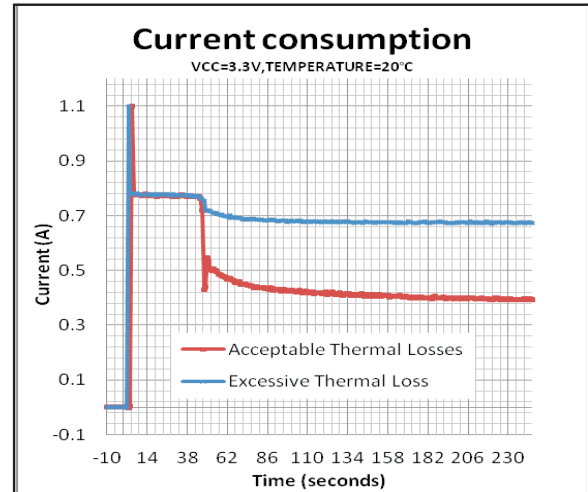

Figure: 16-03
- To reduce unwanted thermal gains/losses, open a window in any top level copper pours under the device. Excessive thermal losses may result in higher than normal current consumption or complete device failure. See Figure 16-03. Excessive thermal gains will overheat the oven core causing frequency instability. FIGURE 16-02 illustrates a how to properly flood a top layer while creating a “window” under the OCXO.